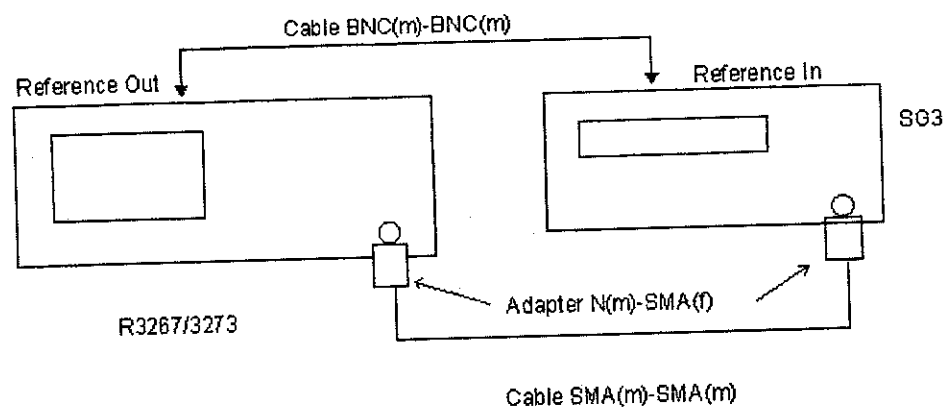

Figure 3-10 Setup of Noise Sidebands Test
1. Connect equipment as shown in Figure 3-10.